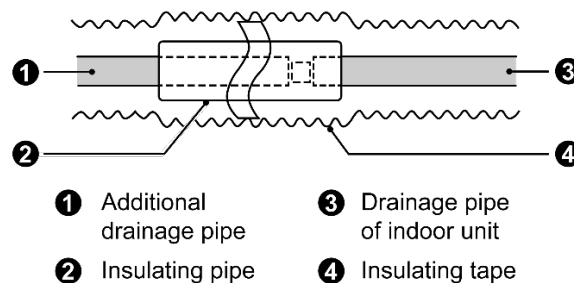

Fig.4.3.1
- (1) It is not allowed to connect the condensate drain pipe into waste pipe or other pipelines which are likely to produce corrosive or peculiar smell to prevent the smell from entering indoors or corrupt the unit.
- (2) It is not allowed to connect the condensate drain pipe into rain pipe to prevent rain water from pouring in and cause property loss or personal injury.
- (3) Condensate drain pipe should be connected into special drain system for air conditioner.
- (4) The drainage pipe should be short and the gradient downwards should be at least 1%~2% in order to drain condensation water smoothly.
- (5) The diameter of drainage hose should be bigger or equal to the diameter of drainage pipe joint.
- (6) Install drainage pipe according to the following Fig.4.3.1 and arrange insulation to the drainage pipe. Improper installation may lead to water leakage and damp the furniture and other things in the room.
- (7) You can buy normal hard PVC pipe used as the drainage pipe. During connection, insert the end of PVC pipe into the drainage hole and then tighten it with drainage hole and wire binder. Can't connect the drainage hole and drainage hole with glue.
- (8) When the drainage pipelines are used for several units, the position of pipeline should be about 100mm lower than the drainage port of each unit. In this case, thicker pipes should be applied.